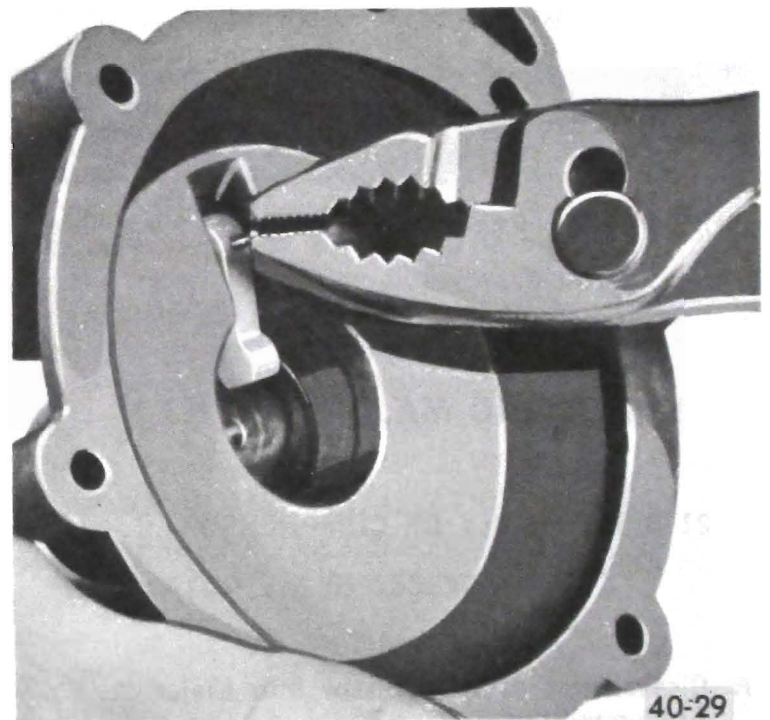

Figure 40-38 - Removing Rocker Arm Pin
6. If necessary, remove rocker and swivel arms. Grip pin with pliers and remove pin. See Figure 40-38.